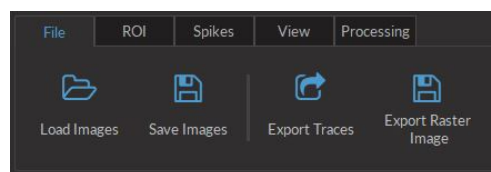

Figure 4.12: File Tab
1. The **File tab** (Fig. 4.12) is used to save/load data.